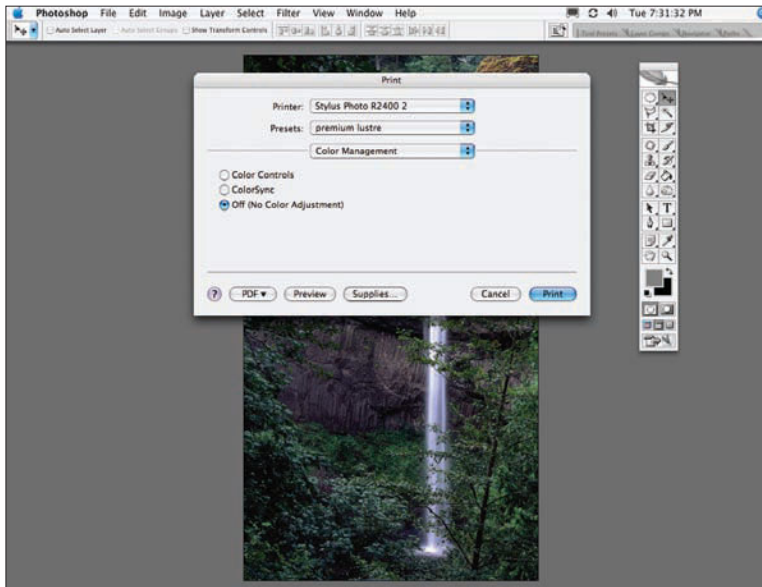

Figure 4.25
11. Now, go back up to the top of the dialog box, and in the Print Settings drop-down menu, click and hold—the drop-down menu will reappear—choose Color Management. You'll see a new dialog box that appears in Figure 4.25.